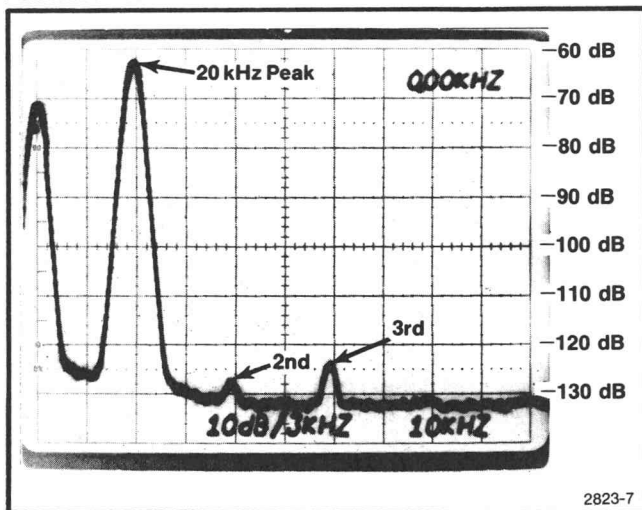

Fig. 4-6. 20 kHz harmonic distortion display.
o. Adjust the spectrum analyzer reference level control to position the 20 kHz peak on the top horizontal graticule line. This line is the -60 dB reference level (see Fig. 4-6).
p. Set the calibration fixture Mode to Notch (in) and Atten to 0 dB (out). Adjust the SG 505 VERNIER control and the two calibration fixture Adjust for Null controls to position the 20 kHz peak below the top horizontal graticule line (see Fig. 4-6).
q. Note the 2nd, 3rd, 4th, and 5th harmonics on the waveform, or as many of these harmonics as are visible. See Fig. 4-6 and compute the THD using the formula in step 9 part h.
t. Repeat step 9 parts n through q, except position the 50 kHz peak (2nd peak) of the waveform (see Fig. 4-6).
w. Repeat step 9 parts n through q, except position the 100 kHz peak (2nd peak) of the waveform. The waveform is similar to that in Fig. 4-6.